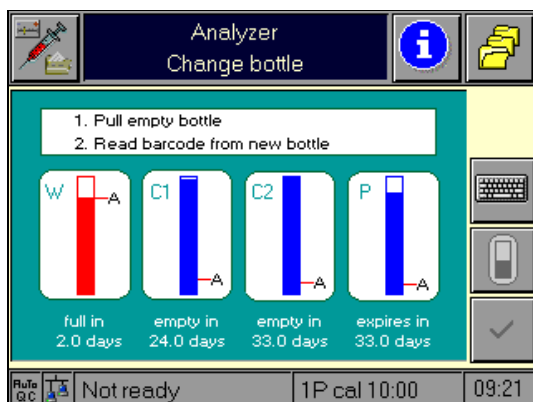

Fig. 8
- Open the bottle compartment cover. The bottle exchange image appears on the display (see Fig. 8).